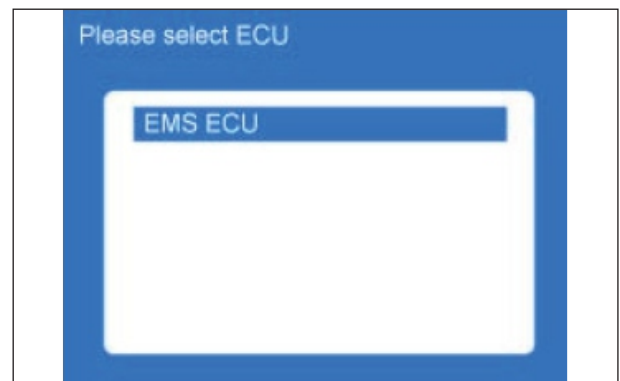

Fig. 7.5
- After selecting the vehicle model the respective ECU is selected. In this case EMS ECU. (Fig. 7.5)